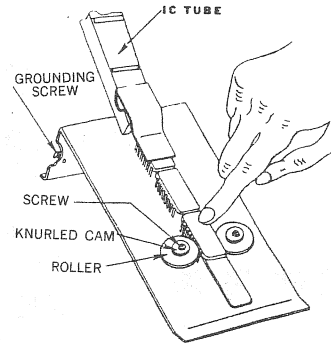

FIG. 1
3. IC'S WILL SLIDE FROM TUBE. HOLD IC'S DOWN LIGHTLY WHEN PASSING ROLLERS. FIG. 1
1. LOOSEN SCREW. FIG. 1